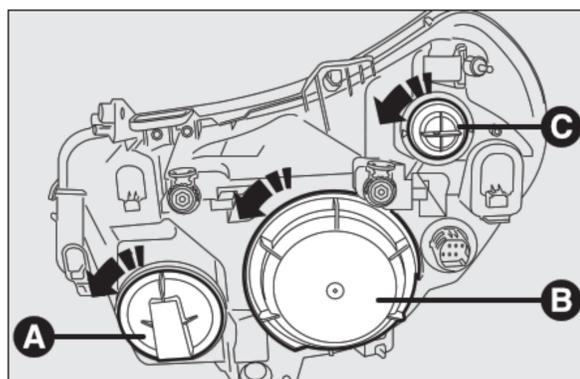

fig. 20
To replace the main beam bulb, remove cap **A**-fig. 20.
To replace the dipped beams/sidelights bulb, remove cap **B**-fig. 20.
To replace the direction indicators bulb, remove the bulb holder **C**-fig. 20.
- remove the protection cover **B**-fig. 20 turning it counterclockwise;
- refit the protection cover **B**-fig. 20 turning it clockwise and check for proper locking.
- remove the protection cover **A-fig. 20** turning it counterclockwise;
- refit the protection cover **A-fig. 20** turning it clockwise and check for proper locking.
- remove the protection cover **B-fig. 20** turning it counterclockwise;